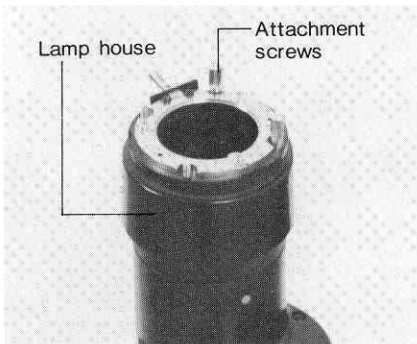

Fig. 59
(1) Attaching the Relay Lens
- (a) Remove the plug connected to lamphouse ③9, raise and remove the cover by turning it counterclockwise.
- (b) Unscrew four knurled lamphouse attachment screws and pull the lamphouse up. (See Fig. 59)